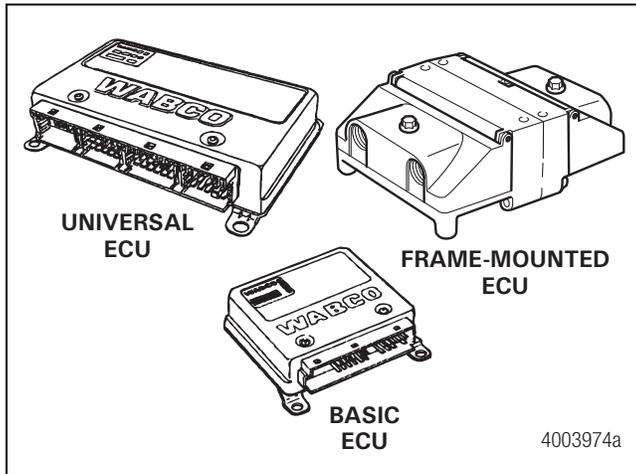

Figure 4.13
4. Remove the mounting hardware. Remove the ECU. Figure 4.13.